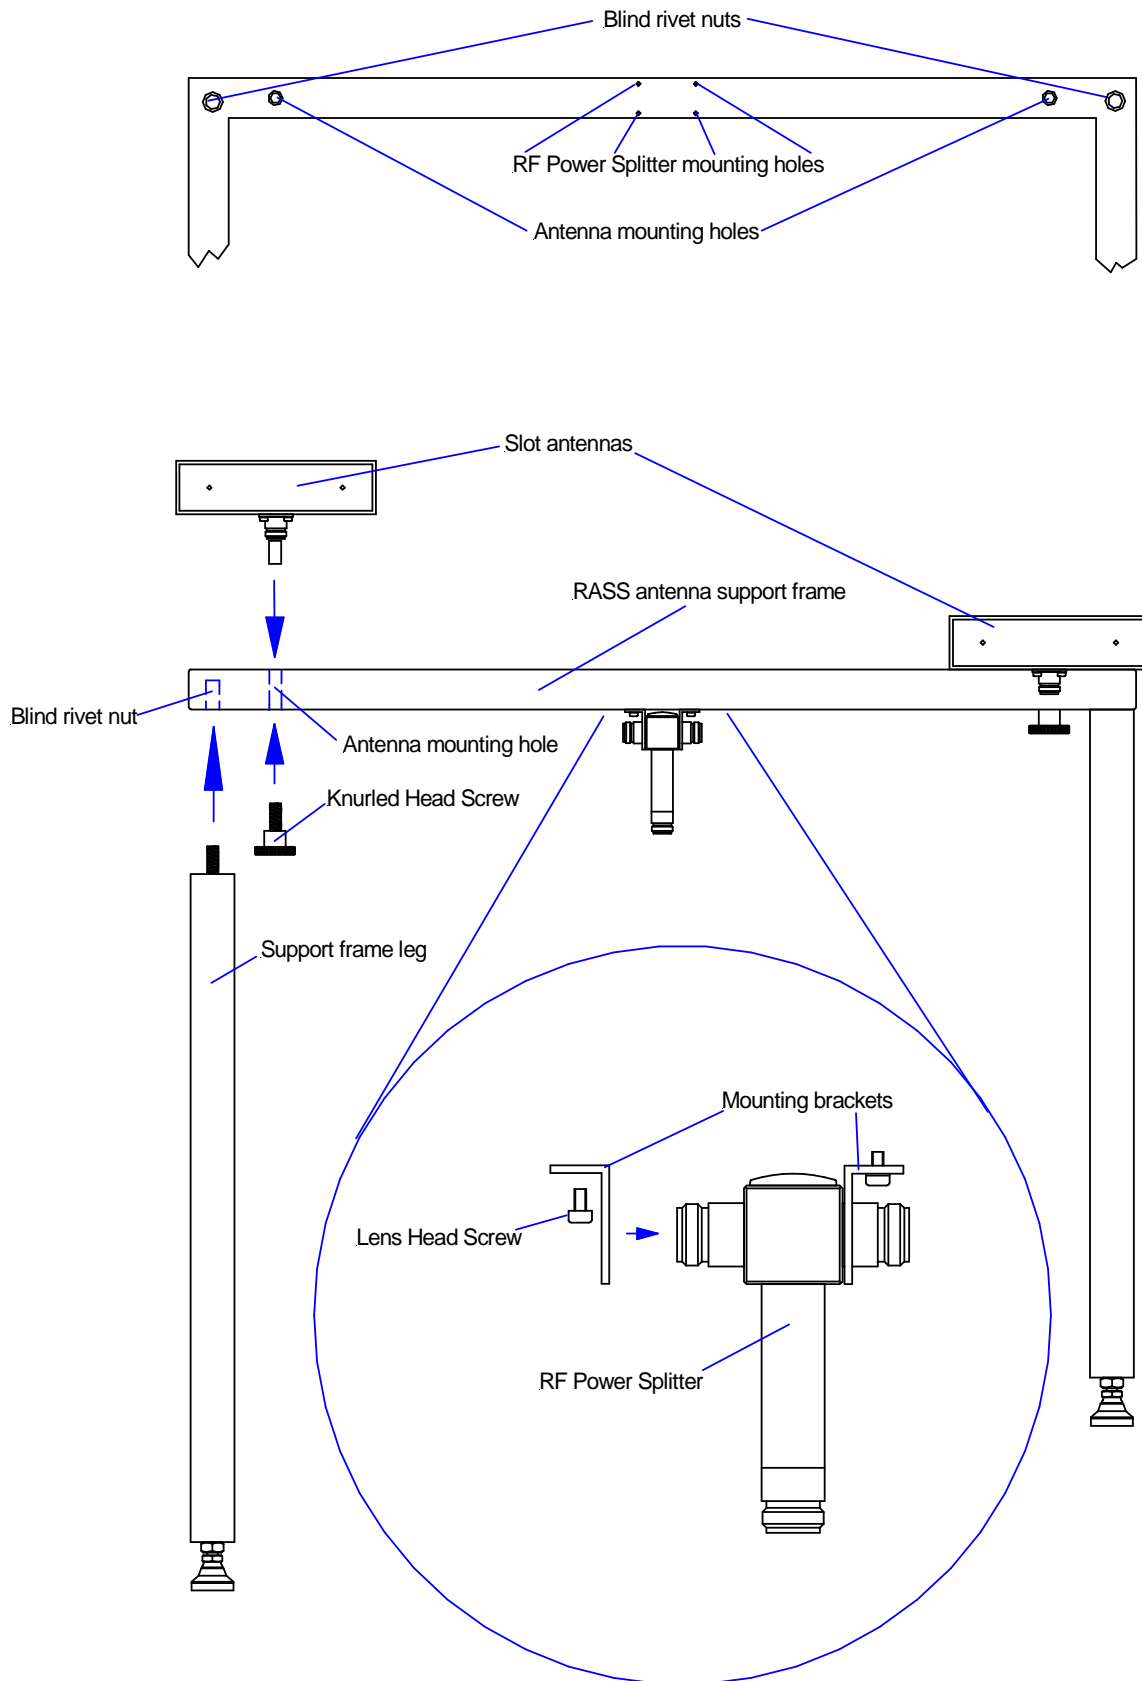

Figure 13: Assembling a windRASS antenna with support frame
The windRASS Extension comes with four RASS antenna support frames. Each of these rectangular frames hosts two of the eight slot antennas. Figure 13 gives an overview over the components and several mounting holes of a support frame. For assembling such a frame, proceed as follows:
- Attach the RF Power Splitter to the frame (Figure 13). To do so, guide the two shorter ends of the RF Power Splitter through the two mounting brackets (close-up in the lower panel of Figure 13), insert the corresponding screws and screw the RF Power Splitter onto the frame.
- To attach the two antennas to the support frame, put the antennas onto the frame such that the two threads, which are already attached to the antennas, slide into the antenna mounting holes (Figure 13). Ensure that the RF connectors of both antennas point towards the RF Power Splitter. Now, fix the antennas to the frame by using the knurled head screws.